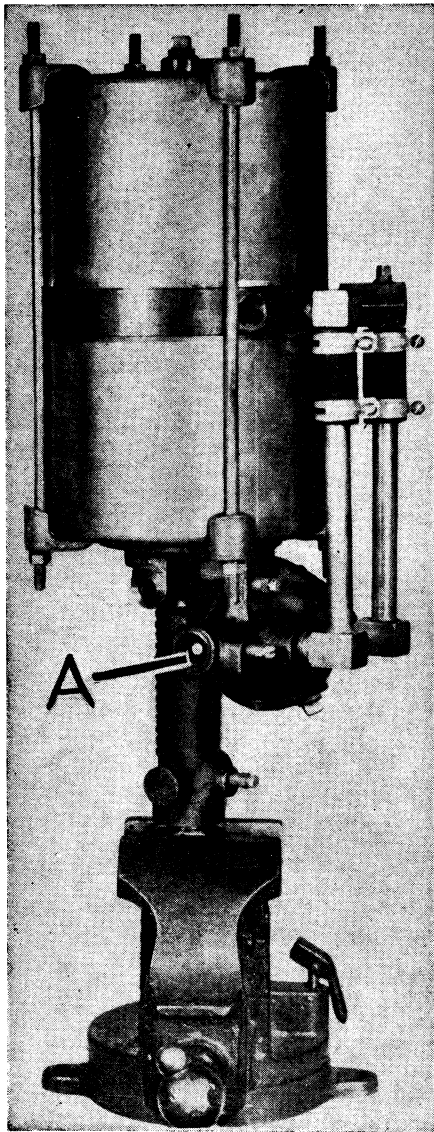

Fig. 32 Correct method of holding Hydrovac in vise
4. Place assembly in vise, Fig. 32, clamping end plug tightly.
13. Remove valve operating piston (A), Fig. 32, by inserting a small screw driver through hole (C), Fig. 37.
3. Install valve operating piston (A), Fig. 32.